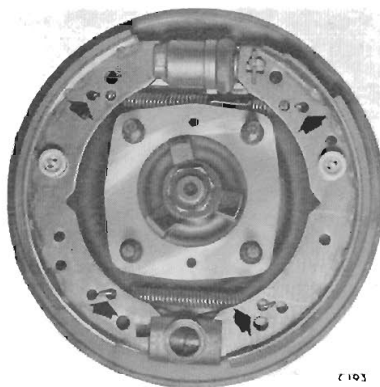

Fig. 15. Rear Brake
**Rocker Clearances (Fig. 15)**